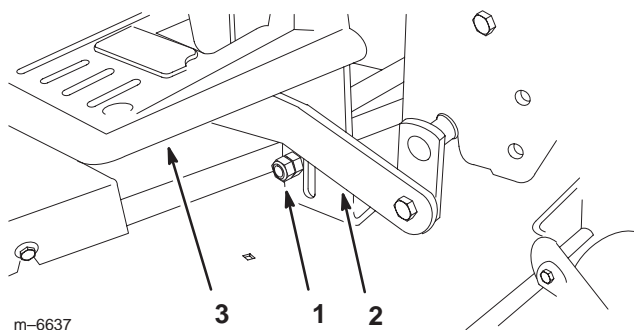
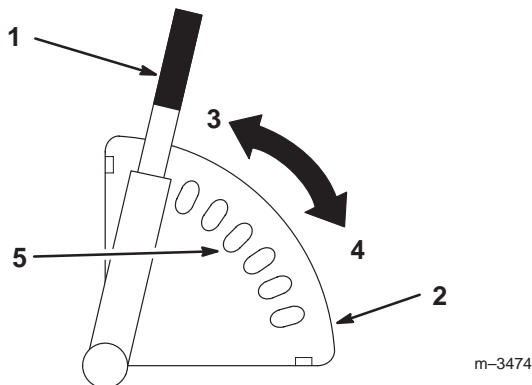

Figure 16
Figure 22
- Raise the mower to the highest height-of-cut (Fig. 22) and check if the transport level stops contact the bottom of the draft bars (Fig. 16).
- If needed, loosen and adjust the transport level stops so they just contact the bottom of the draft bars (Fig. 16).
- If one of the bumpers does not contact the footrest, adjust the appropriate transport level stop (Fig. 16).
3. Pull the height-of-cut lever out to disengage it from the quadrant (Fig. 22).
4. Adjust the height-of-cut to the desired level (Fig. 22).
5. Release the lever inward to lock it into the quadrant (Fig. 22).